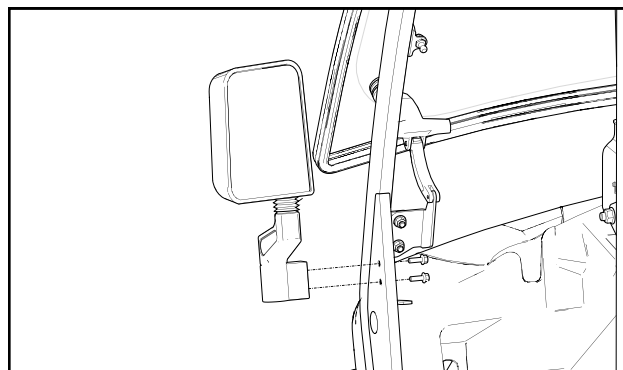

Figure 1.2: Side Mirror to Cab Frame
- 1.2 Attach the driver's side mirror to the frame into the hinge holes using two 1/4-20 x 3/4" bolts. See Figure 1.2.